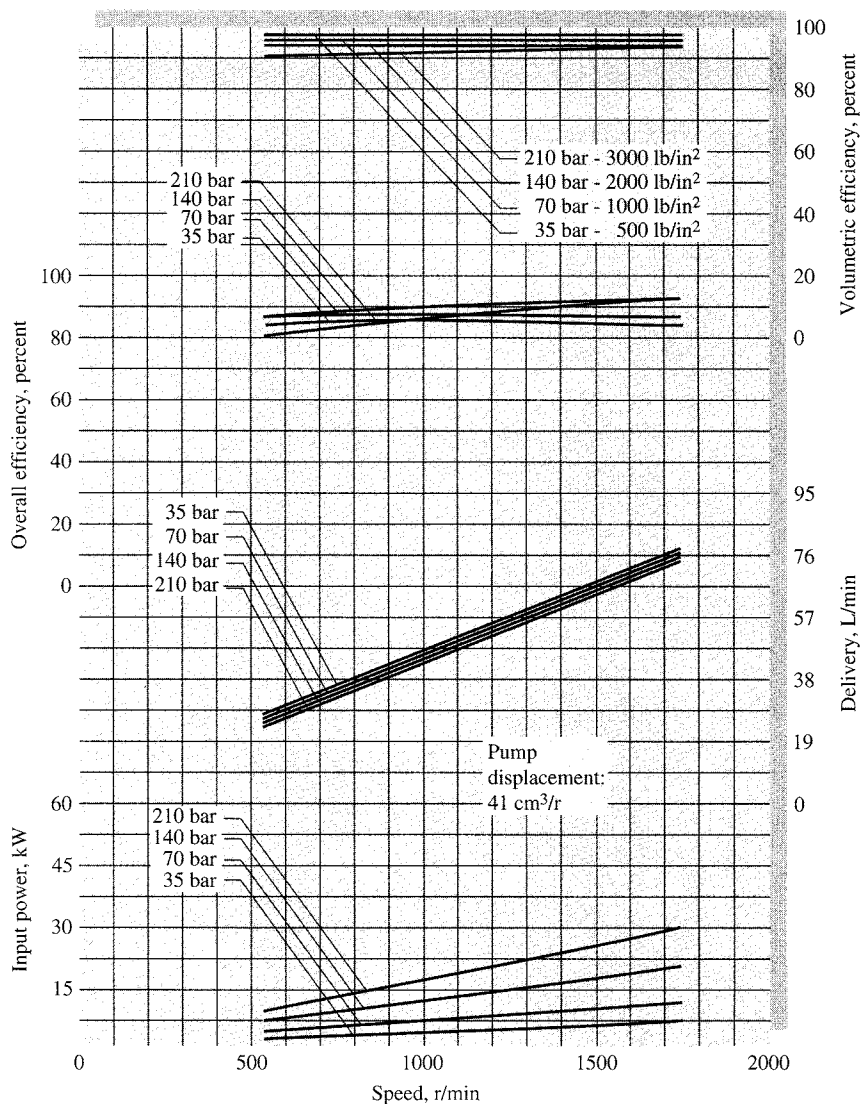

Fig. P11.9
**11.9** Figure P11.9 shows the measured performance of the Vickers Inc. Model PVQ40 piston pump when delivering SAE 10W oil at 180°F ( $\rho \approx 910 \text{ kg/m}^3$ ). Make some general observations about these data vis-à-vis Fig. 11.2 and your intuition about PDP behavior.
**11.10** Suppose that the pump of Fig. P11.9 is run at 1100 r/min against a pressure rise of 210 bar. (a) Using the measured displacement, estimate the theoretical delivery in gal/min. From the chart, estimate (b) the actual delivery; and (c) the overall efficiency.
**Solution:** (a) From Fig. P11.9, the pump displacement is  $41 \text{ cm}^3$ . The theoretical delivery is
(b) From Fig. P11.9, at 1100 r/min and  $\Delta p = 210$  bar, read
(c) From Fig. P11.9, at 1100 r/min and  $\Delta p = 210$  bar, read  $\eta_{\text{overall}} \approx \mathbf{87\%}$ . *Ans. (c)*